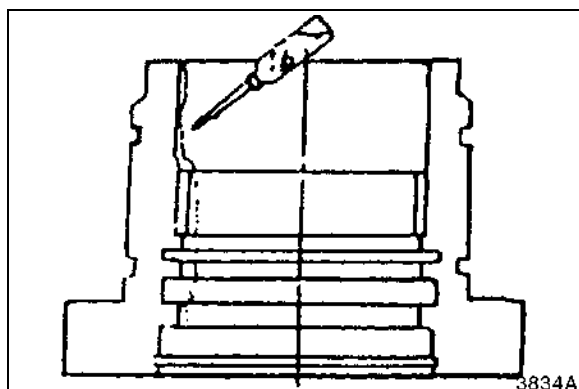

Figure 15
1. Apply grease to inner part of cylinder head and to U-packing groove. See Figure 15.